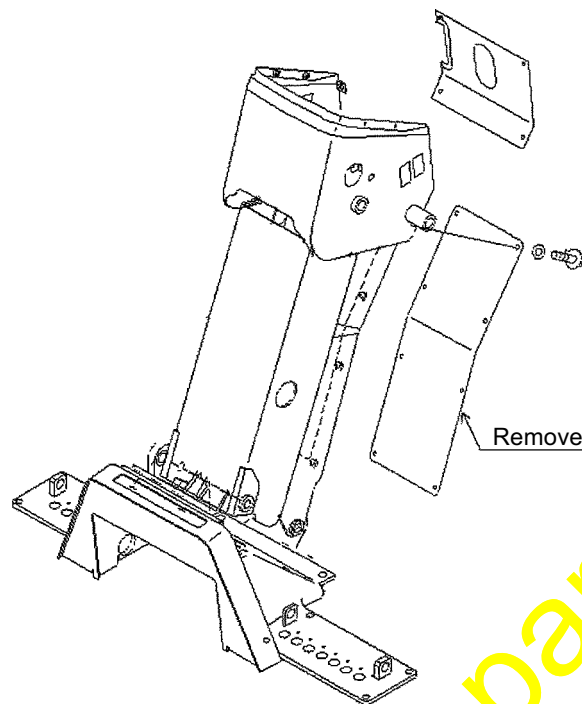

Fig. 1
1) Removing the steering wheel post cover (Refer to Fig. 1.)